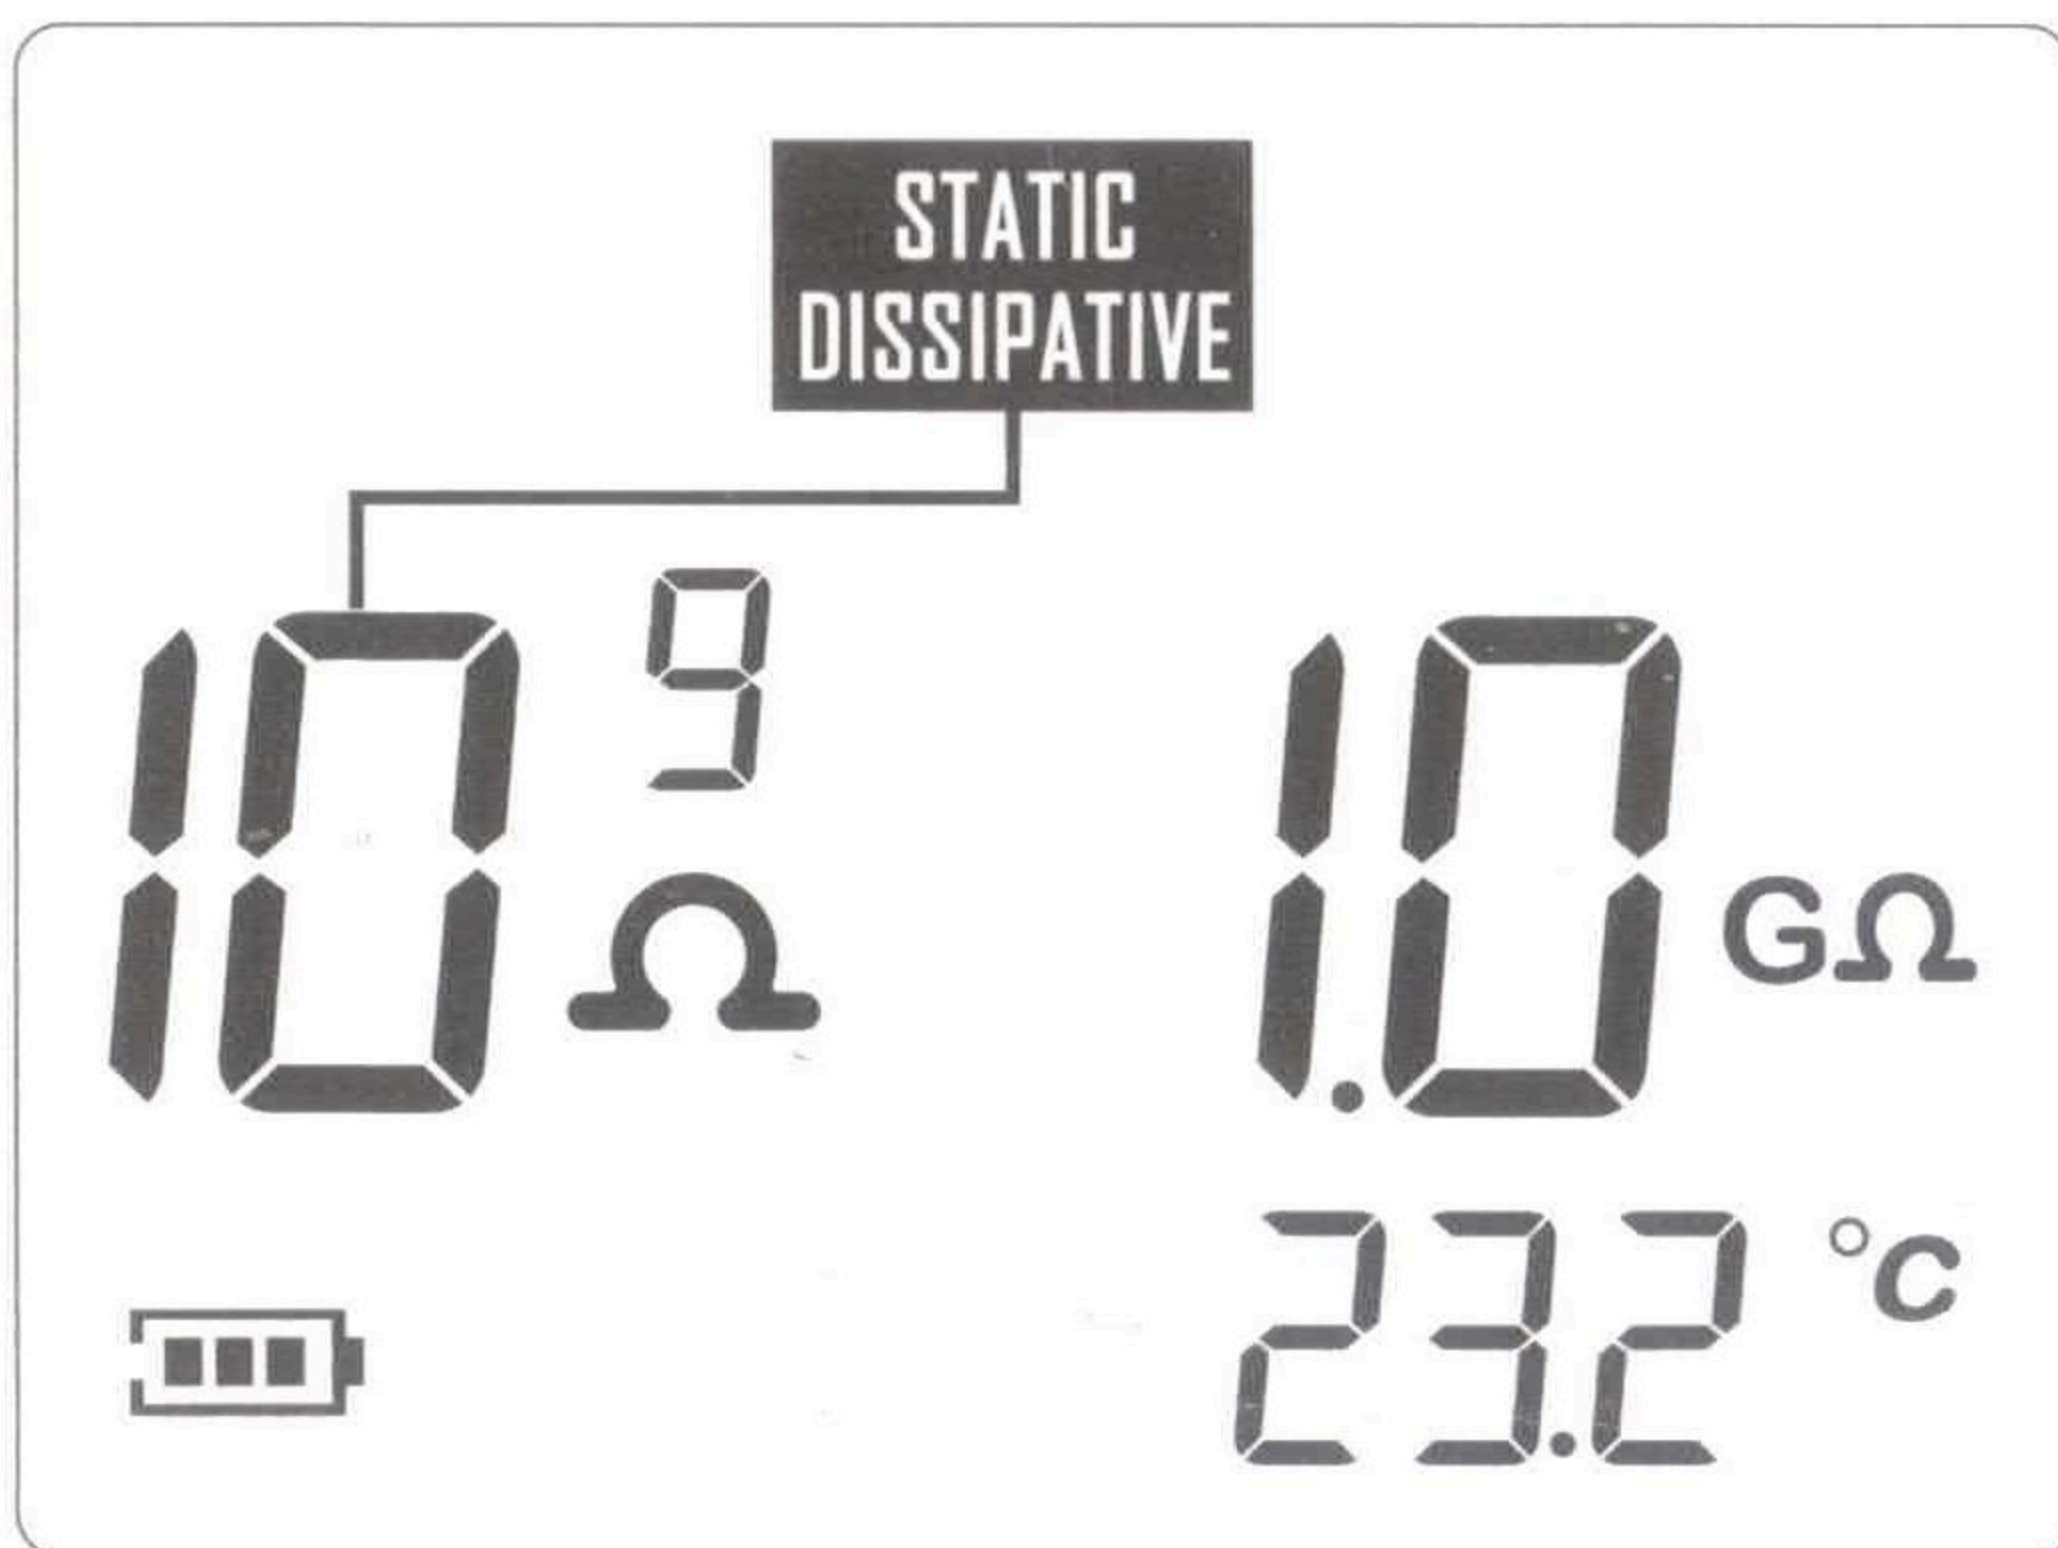

Figure 3
- c). For example: the resistance reading in Figure 3 is $10^9 \Omega$, $1.0 \text{G}\Omega$, the measured material is anti-static material;